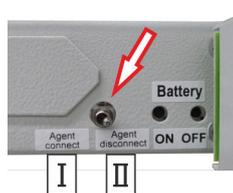

Fig. 36: Blocking switch
1. ➤ To block the system: Switch the blocking switch (Fig. 36/arrow) to "Agent disconnect [blocked]" (Fig. 36/II).